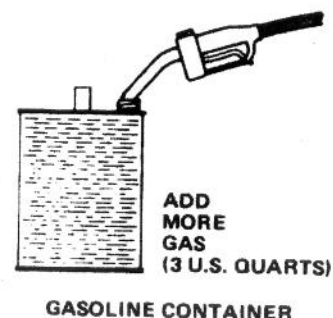

Figure 5
1. Add 1 U.S. quart of leaded or unleaded **REGULAR** gasoline to a gasoline container (Fig. 5).
2. Pour 1/2 cup – 4 oz. – of **two cycle engine oil** into the gasoline container (Fig. 5). **DO NOT** use multi-viscosity oils.
3. Shake the gasoline container vigorously so oil mixes with gasoline (Fig. 5). Remember to install cap on gasoline container before shaking.
4. Add an additional 3 U.S. quarts of gasoline to the premixed gasoline (Fig. 5). Fuel mixture is now ready to use in your S140 Snowthrower.